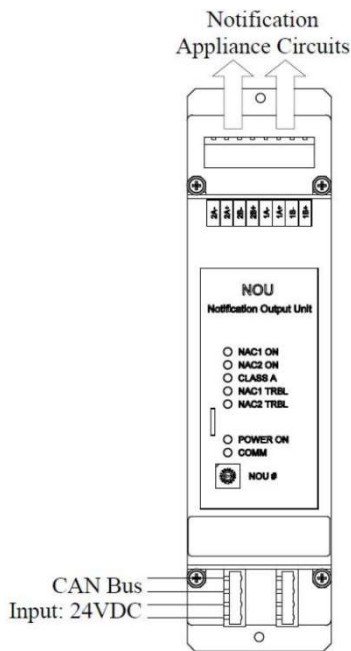

Figure 1
- 2) Mount the FW337 NOU onto the backbox of the FW106 FACP using two #4-40 screws provided, see Figure 1. There are 8 identical slots for the installation in the backbox. They are shared by the FW327 ALU, the FW347 ROU, the FW357 XNU, (see figure 1)